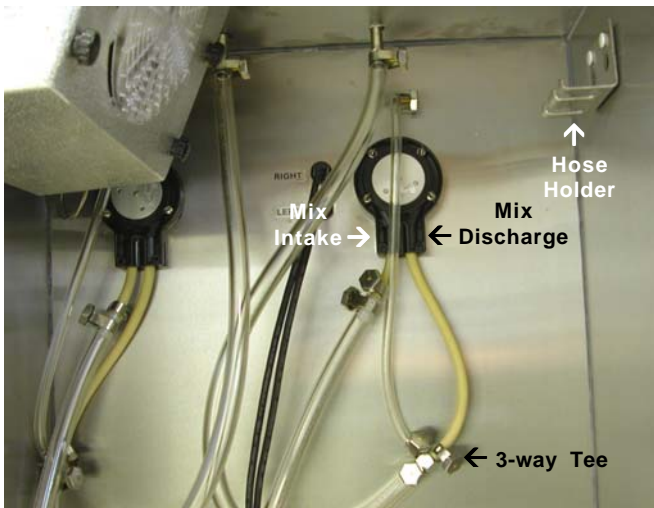

Figure 22. Mix Pumps
- A. Mix Operation: The peristaltic mix pump contains one continuous mix pump hose. When looking at the face of the peristaltic mix pump, the left side of the hose is the suction or pickup. The right side of the hose is the discharge. Mix is drawn up the suction side of the hose and transferred thru the discharge side to the freezer (see Figure 22).